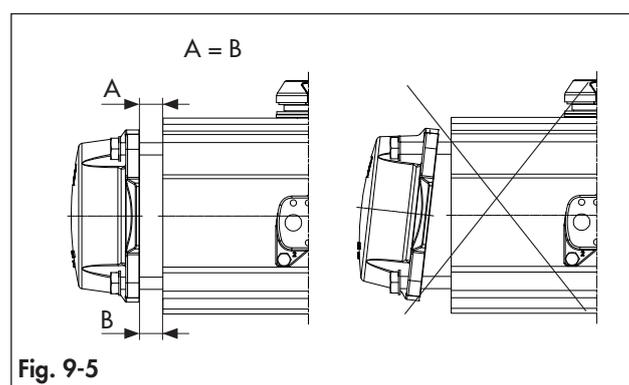

Fig. 9-5
- Remove the end caps as shown in Fig. 9-5 keeping a constant distance ($A = B$) between the actuator body and the end cap interface.
- Unscrew completely the end cap screws (13) or nuts (13.2) as per the sequence shown in the Fig. 9-5.